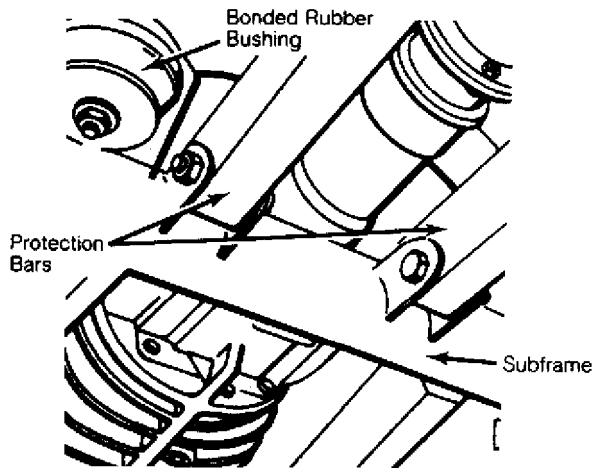

Fig. 3: Locating Protection Bars & Bonded Bushings
2) Wire final drive support to body. Remove protection bars and rubber bushings. Use Transmission Support (V.A.G 1383) to support subframe. Remove bolts which attach subframe to body. Carefully lower and remove subframe. See Fig. 3.